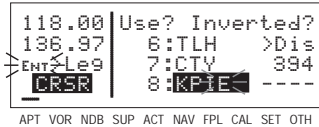

Figure 4-6
9. Use the same procedure to enter the rest of the waypoints in the flight plan (figure 4-6). If the flight plan consists of three or more waypoints, the waypoints will automatically scroll as necessary to allow entry of the next waypoint.